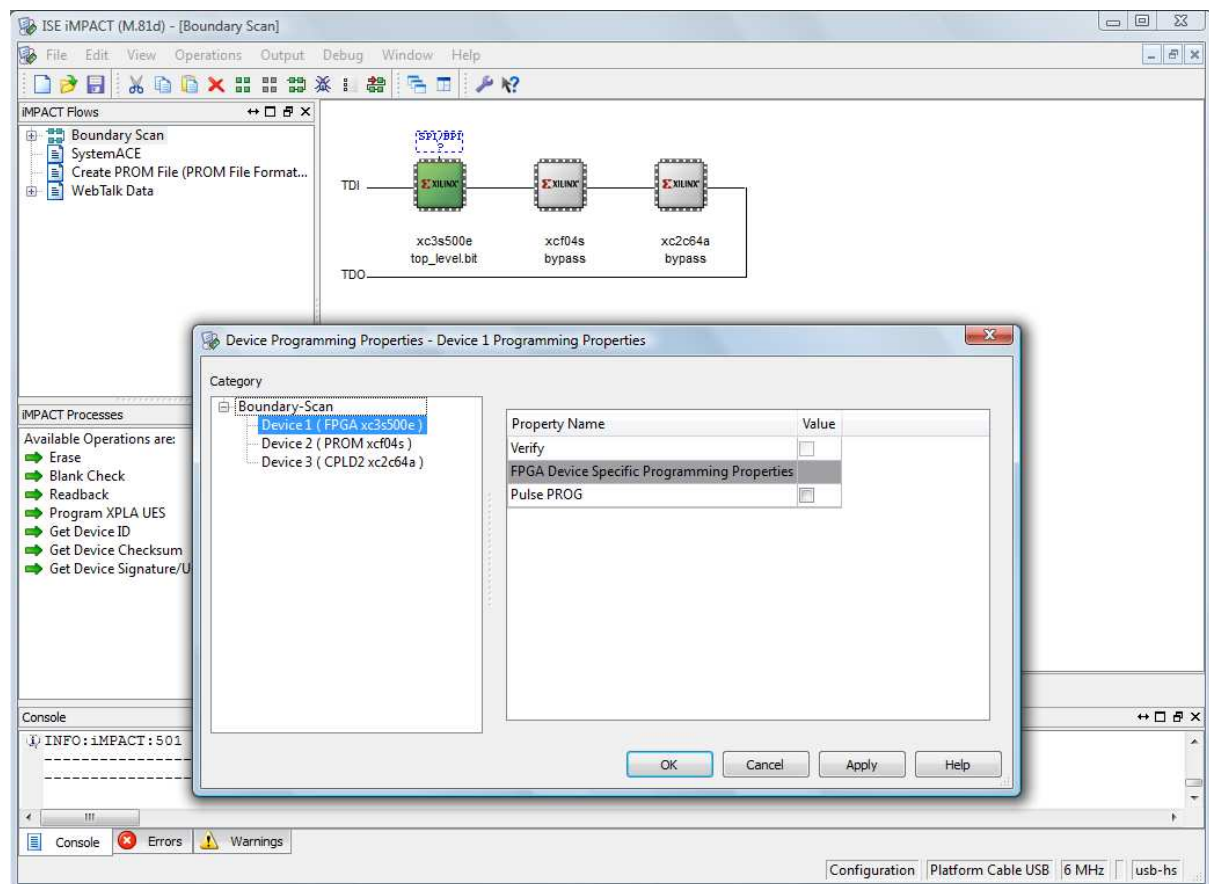

Figure 6.57: iMPACT window, Device Programming Properties dialog box.
12. A window entitled **Device Programming Properties – Device 1 Programming Properties** will appear (Figure 6.57). Click **OK**.